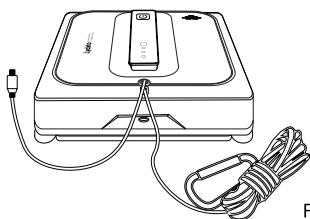

Figure1
Attach the rag to the bottom of the fuselage correctly, making sure not to block the drive wheel and the anti-drop sensor. (Figure1,Figure2,Figure3)
- Insert the L-shaped connector (connector C) into the power interface of the machine, and tighten the nut. (Figure1).
- Check that the safety rope is not broken and the connection with the robot is firm. (Figure1)